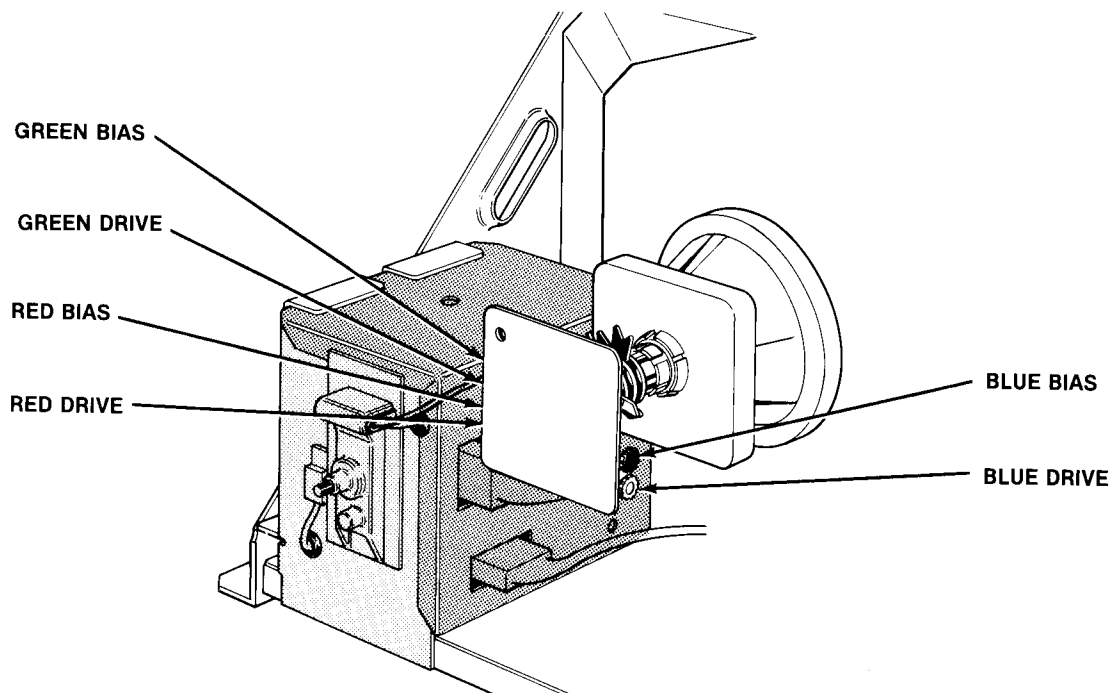

Figure 4 Adjustable Controls on Neck PCB
2. Turn all Bias and Drive controls to their fully clockwise position. Figure 4 shows the location of these controls.